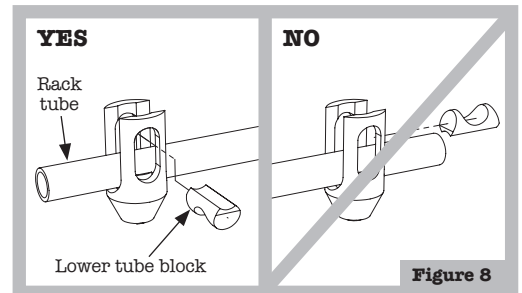

Figure 8
8. Install the lower tube block through the upper barrel so it sits on top of the rack tube (Figure 8).